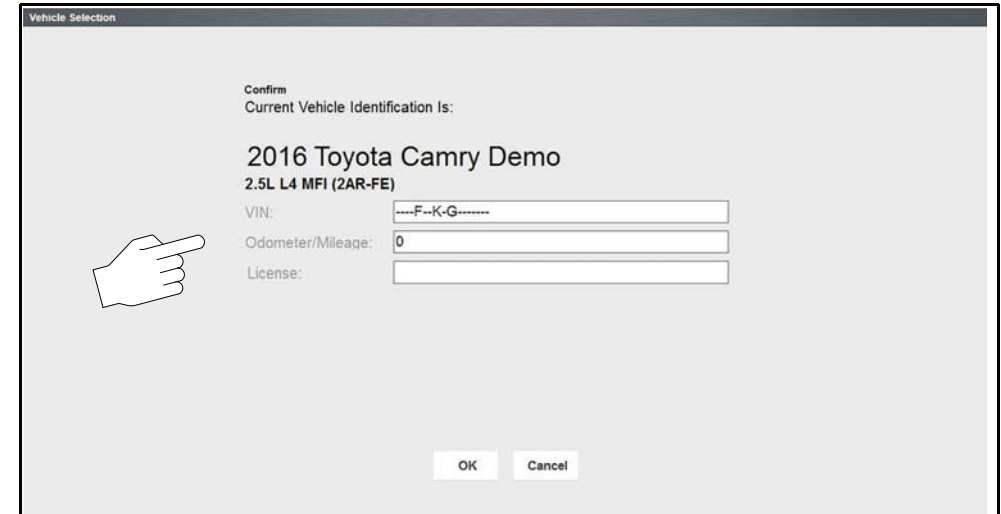

Figure 5-2
A confirmation page showing the identified vehicle will display once all the required data has been entered. If needed, enter the vehicle VIN, odometer reading and license plate (Figure 5-2). Review the information to make sure it is correct.
4. Select **OK** (Figure 5-2).